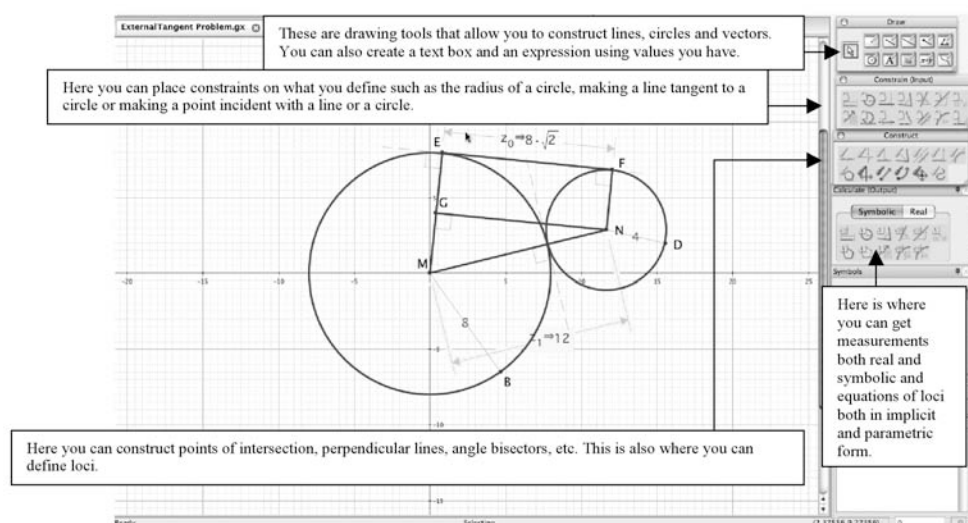

FIGURE 1. A GEOMETRY EXPRESSIONS SOLUTION.
**Figure 1** is a screenshot of the figure that I created to solve the problem. I have added brief descriptions of the four toolbars on the right side of the screen and their purposes.
Here is how I used *GE* to create the diagram in Figure 1.